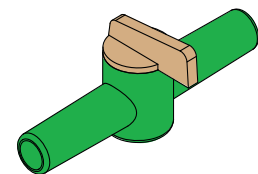

Figure 3-5 Closed
6. Close the valve (*see figure 3-5*).